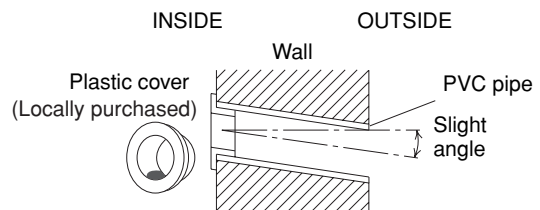

Fig. 12
- Place the plastic cover over the end of the pipe (for indoor side only) and insert the pipe in the wall. (Fig. 12)